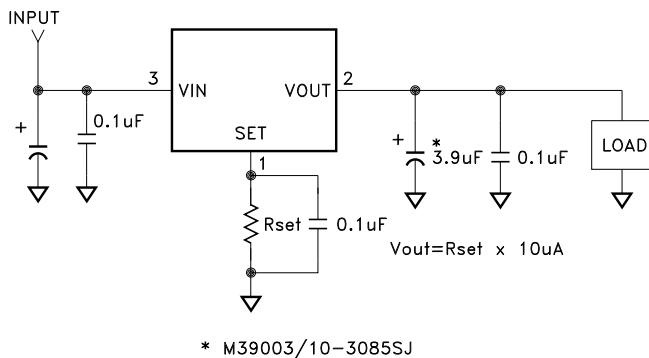

FIGURE 1
- ① Output is decoupled to ground using a 3.9uF tantalum low ESR capacitor in parallel with a 0.1uF ceramic capacitor unless otherwise specified. (See Figure 1).
- ② Guaranteed by design but not tested. Typical parameters are representative of actual device performance but are for reference only.
- ③ Industrial grade devices shall be tested to subgroup 1 unless otherwise specified.
- ④ Class V devices shall be 100% tested to subgroups 1,2 and 3.
- ⑤ Subgroup 1 TA=TC= +25°C